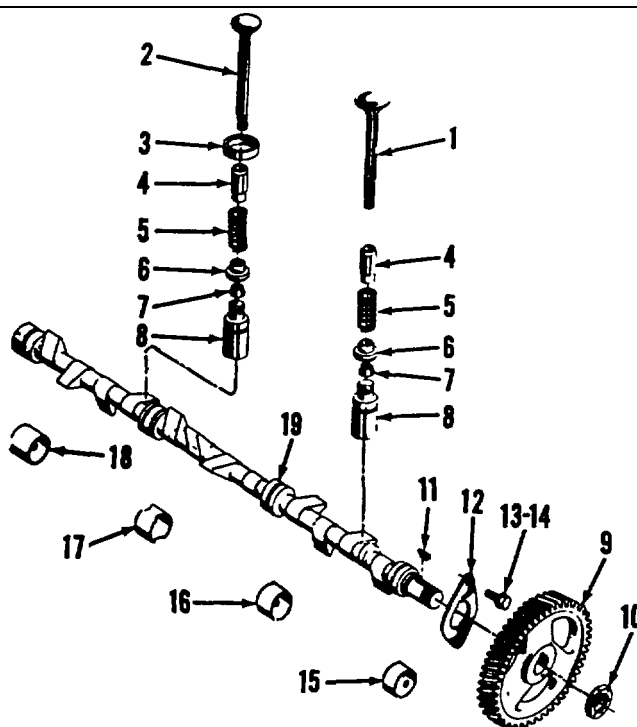

Figure 4-23. Engine Valve Train and Camshaft Group, Exploded View
3. Rotate crankshaft until lowest point of any lifter travel is reached. Using valve spring compressor, compress valve spring (5, figure 4-23). Remove valve locks (7). Release and remove valve spring compressor. See figure 4-24. Remove remaining locks in a similar manner.
4. Lift exhaust valves (2) and intake valves (1) out through top of cylinder block and tag them for installation in original positions.
1. Remove nut (10, figure 4-23) and governor race. Remove gear (9) with a gear puller; then remove key (11).
2. Remove two screws (13), washers (14), and thrust plate (12); then withdraw camshaft (19) from block.